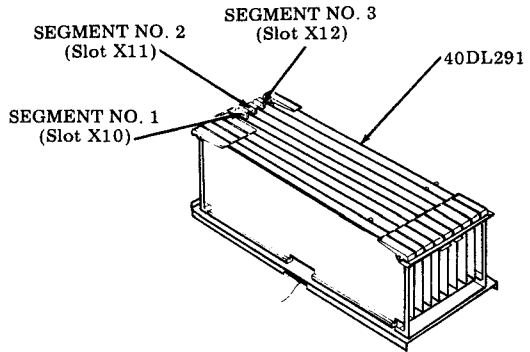

Fig. 46
Step 5 — Check the display logic making sure the cards are seated and properly positioned for called arrangement (Fig. 46). Refer to Fig. 14 for circuit card numbers and their proper location.